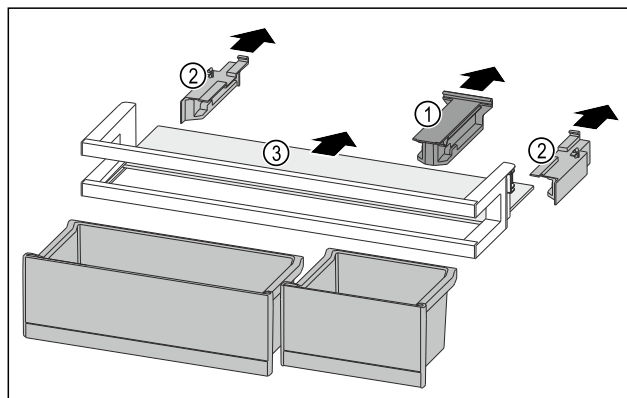

Fig. 125
- Pull off the holding part Fig. 125 (1).
- Pull off the side parts Fig. 125 (2).
- Remove the shelf Fig. 125 (3).